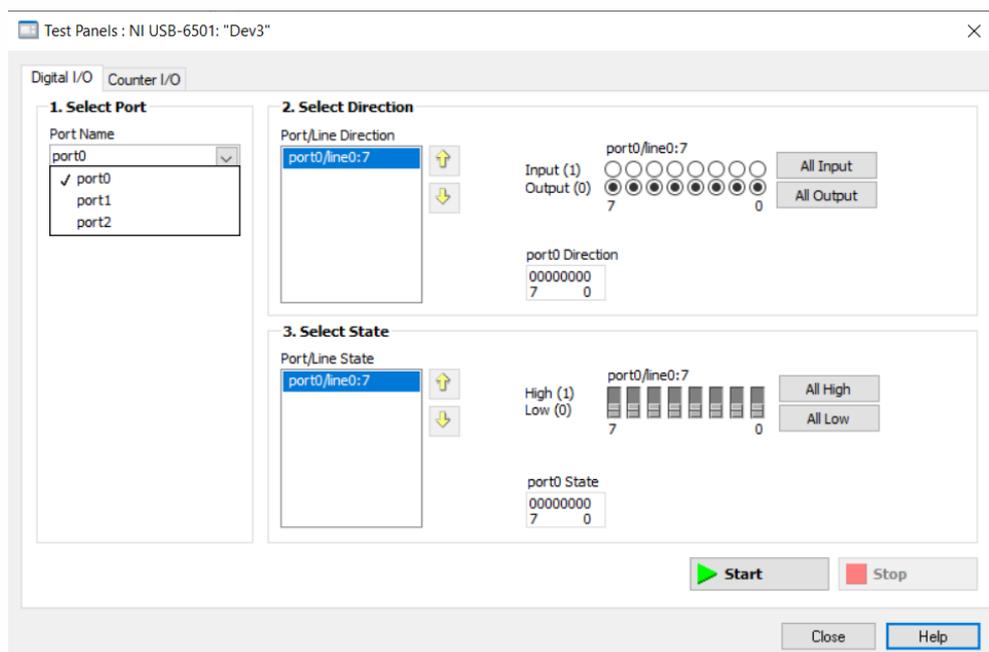

Figure 9: Test Panels to determine which port results in LED triggering when direction is set to 'All Output' and state is set to 'All High'
- c. In the test panel window (Figure 9), set '2. Select Direction' to 'All Output'.